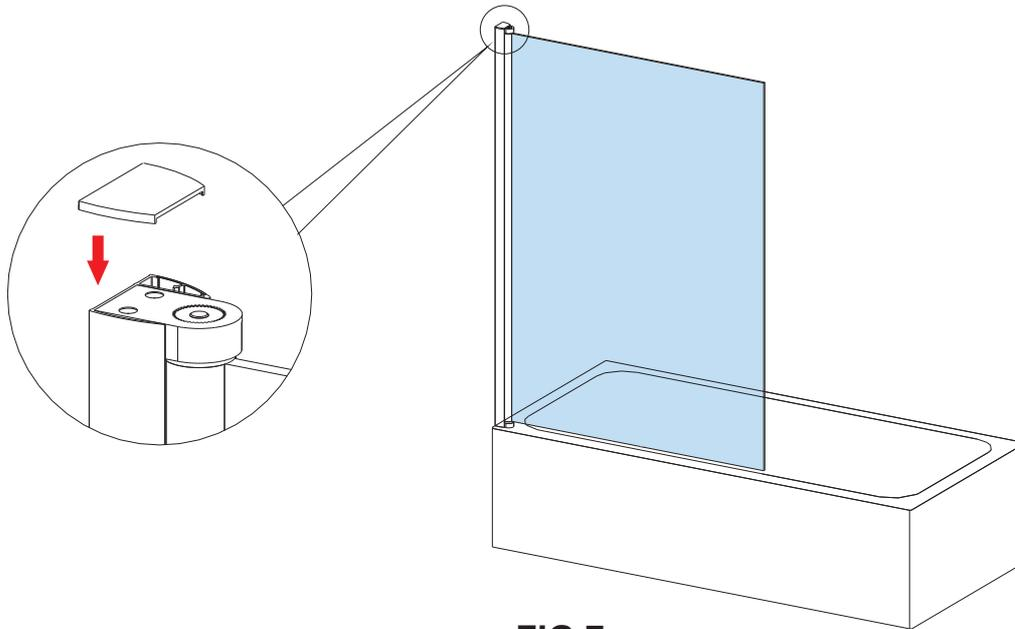

FIG 7
7. Fix top cover cap (SP0M7017) to wall profile (SP0M7013). **FIG 7.**